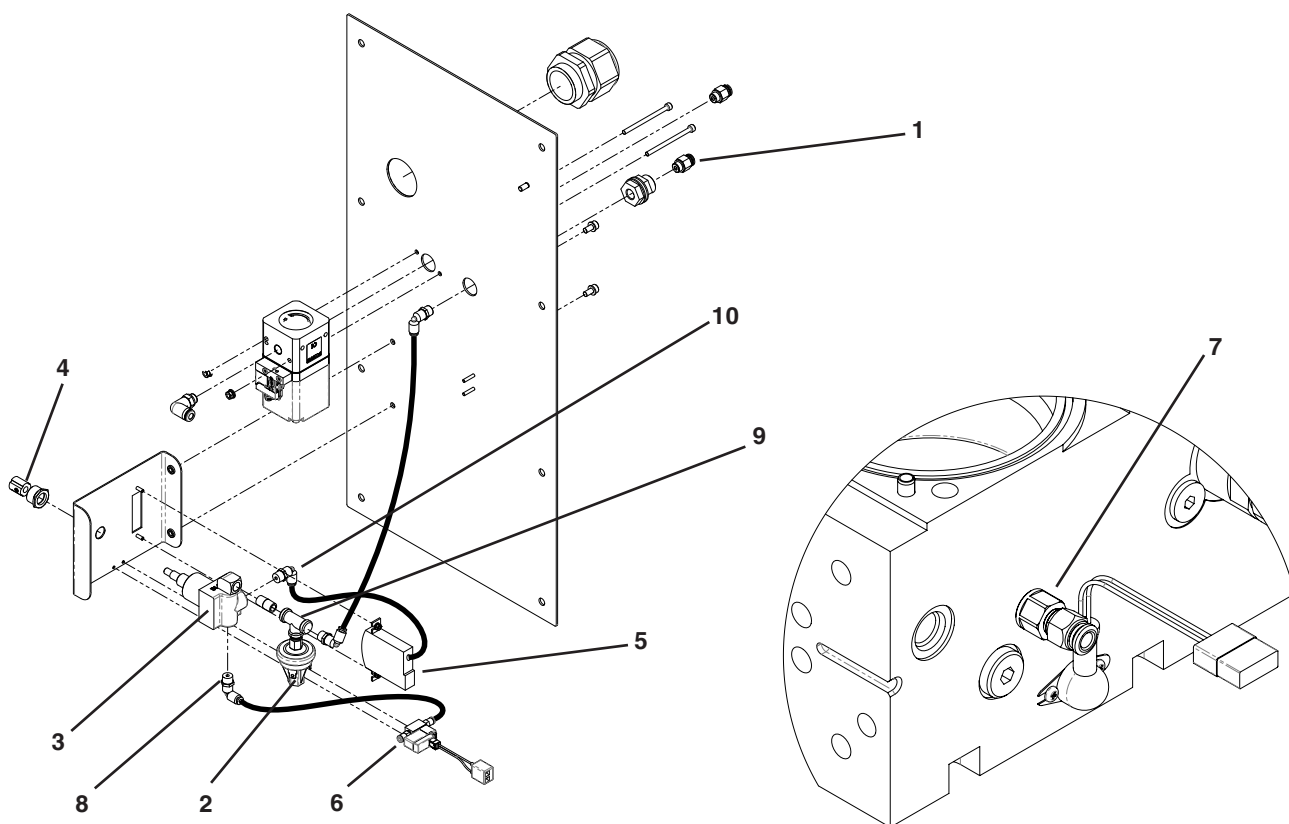

Figure 8-12: Gas control panel repair
See Figure 8-12 on page 8-22.
See Figure 8-12.
4. See Figure 8-12 on page 8-22. Reach behind the manifold to loosen the hex nut securing the gas line tubing to the check valve (7).